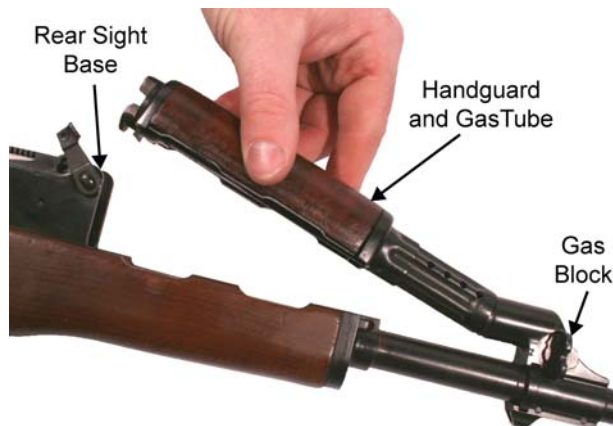

Figure 11. Removing the Gas Tube and Handguard.
- c. Pull up and to the rear on the gas tube and handguard to disengage and remove it from the gas block. Refer to Figure 11.